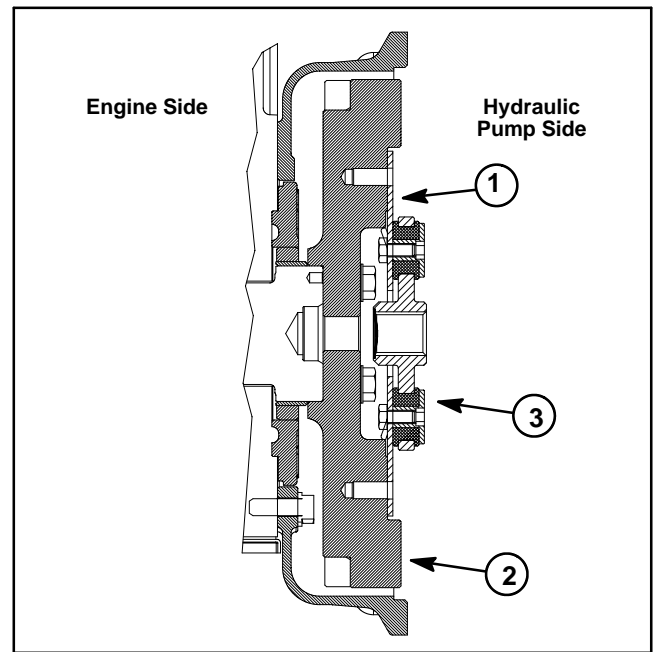

Figure 17
1. Position spring coupler to engine flywheel and align mounting holes. Make sure that coupler hub is away from engine flywheel (Fig. 17).
2. Apply Loctite #242 (or equivalent) to threads of cap screws (item 3). Secure coupler to flywheel with six (6) cap screws and washers. Torque cap screws in a crossing pattern from **29 to 33 ft-lb (40 to 44 N-m)**.
3. Position flywheel plate to engine and engine mounts. Secure flywheel plate and mounts with cap screws (items 5 and 7) and washers using a crossing pattern tightening procedure. Torque cap screws in a crossing pattern from **28 to 32 ft-lb (38 to 43 N-m)**.